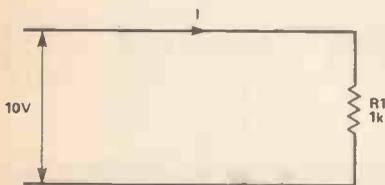

Figure 13. Another equivalent circuit of that in Figure 11, used to find the current, I, in the circuit.
- 5) The total equivalent resistance is formed by two 500R resistors in series (= 1k) and so the final equivalent circuit is as shown in Figure 13.